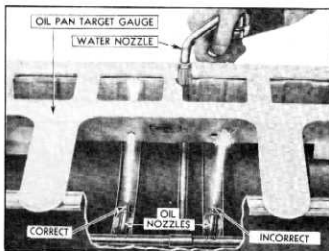

Fig. 27—Checking Aim of Oil Nozzles
- Open the water nozzle just enough to straighten the water streams at the ends of the nozzles. If the oil nozzles are properly adjusted, the water stream will pass through the centers of the target holes. Correct and incorrect aiming of the nozzles is shown in Figure 27.